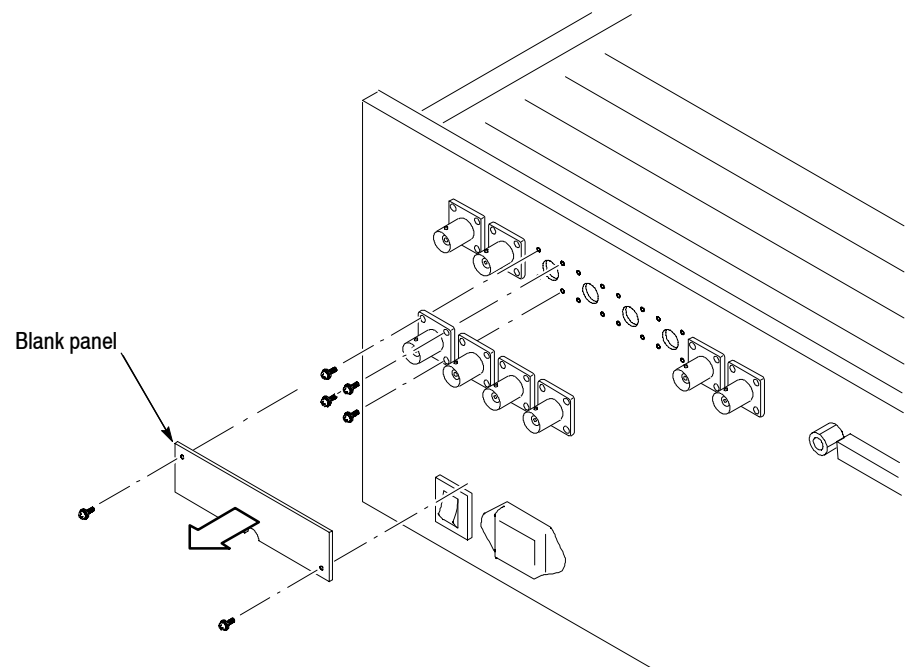

Figure 7: Installing the IQ input connectors
1. *Remove the blank panel:* See Figure 7 below.
2. *Attach the BNC-SMB connectors:* See Figure 7.